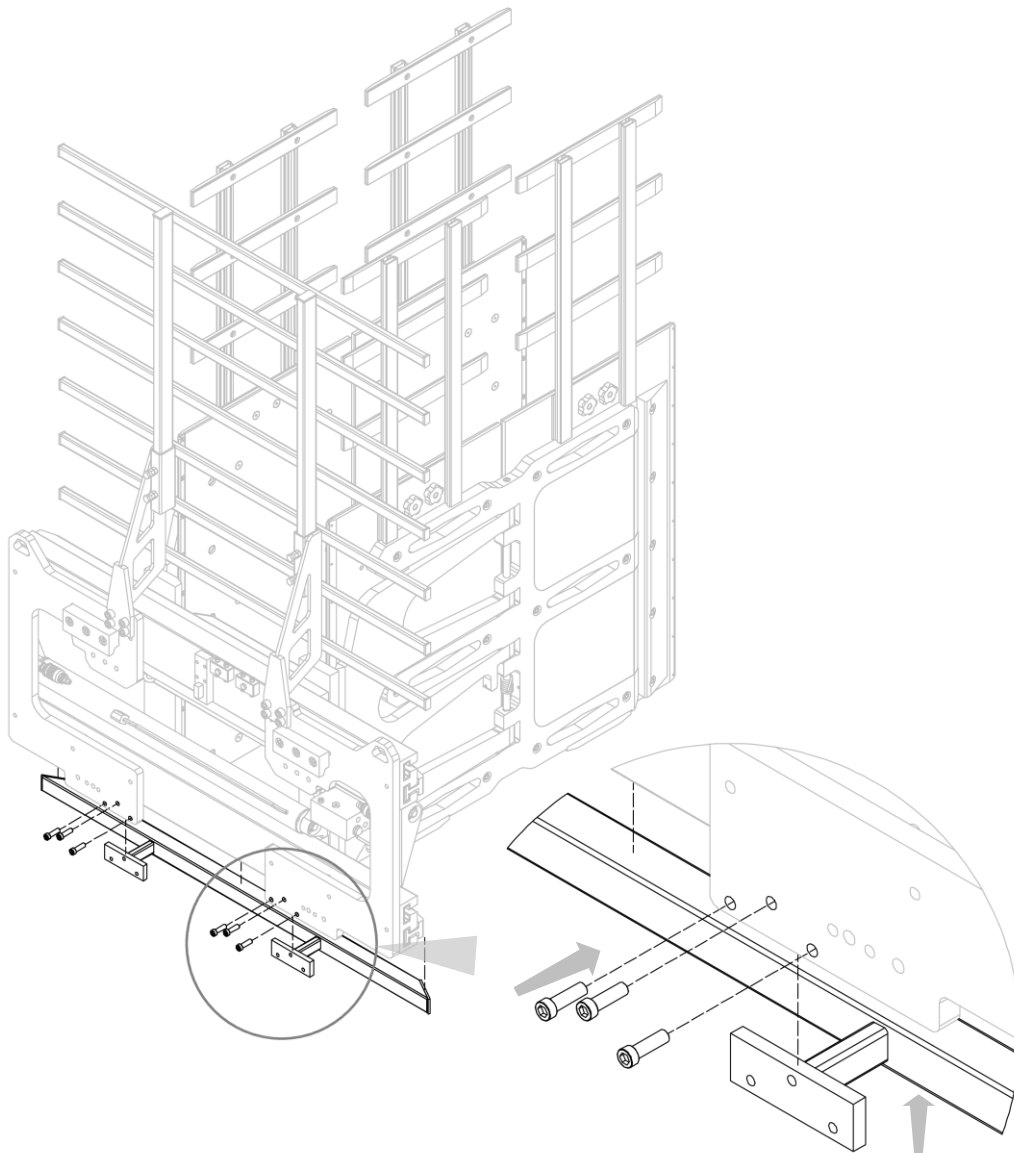

Figure 45
3. Mount the lower load-retaining frame using the screws (see *Figure 45*).